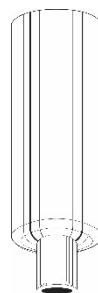

Figure 2.
2. Moisten O-ring inside large end of calibration adapter (Cat. No. 225-01-03, *see Figure 2*) and push adapter over cyclone stem until it fits snugly.